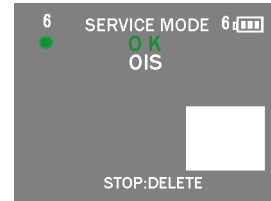

Fig. 3-5
4. When the adjustment is completed successfully, adjustment report menu appears with Green OK on the LCD monitor. (Refer to Fig.3-5)